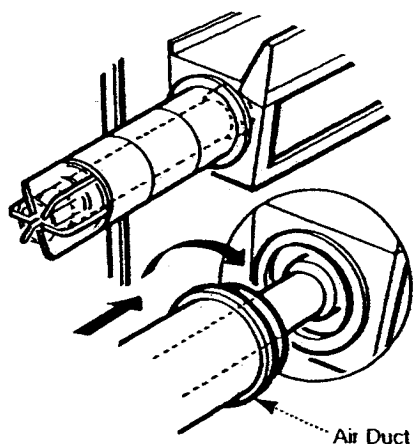

Fig. 50
5. Fit the air duct over the flue duct and draw towards the air box on the back plate, ensuring that the flue duct locates into position in the terminal end of the air duct. Engage the bayonet slots of the air duct over the location lugs of the back plate opening and press and turn clockwise to secure the air duct to the air box (Fig. 50).